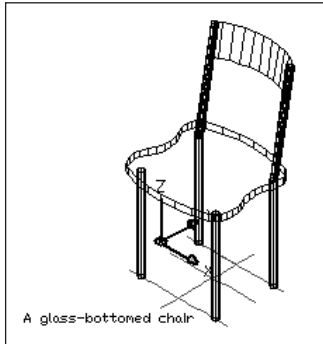

Figure 21-19: The completed glass-bottomed chair
23. Save your drawing. The chair should look like Figure 21-19.